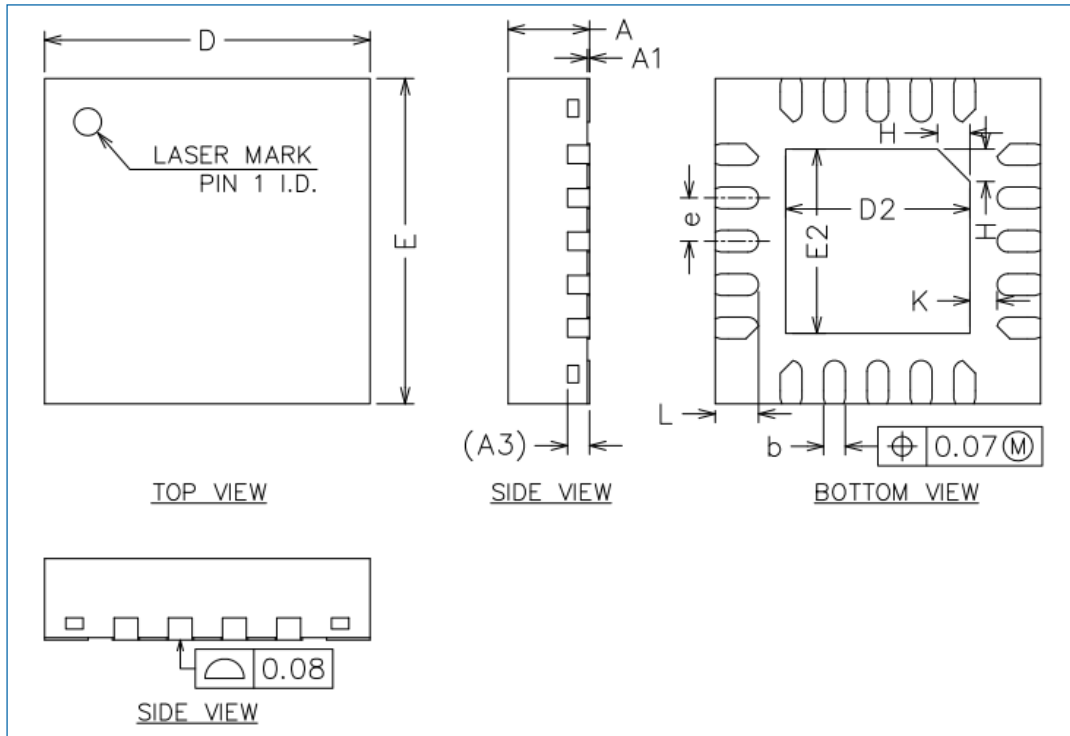

Figure 7-1 QFN20 package 1 outline
- 3 mm × 3 mm, 0.4 mm pitch (0.75 mm thick) package (as shown in Figure 7-1): HK32F0301MF4N6